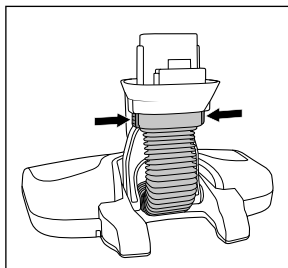

Fig. 17
- ◆ Press the two release buttons **13** on the hose section together and pull off the hose section (see fig. 17).